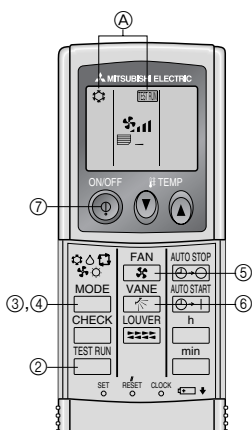

Fig. 7-1
7.2.1. Using wireless remote controller (Fig. 7-1)